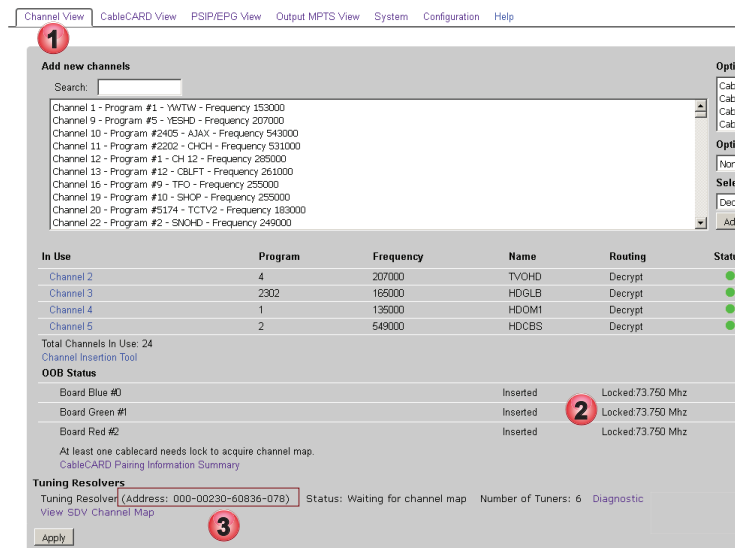

Figure 13-2: Tuning Resolver Recognized
This section assumes the Tuning Resolver is already connected. In order to get the Tuning Resolver authorized, the unit address will need to be sent to the Cable Service Provider's authorization department since the resolver is authorized similarly to a STB. To assist in this, the system polls the connected TR and brings the address to the 'Channel View' page, see Figure 13-2.
1. Click the **Channel View** tab if it isn't already selected, Figure 13-2.
3. The Tuning Resolver is automatically recognized by the system, and after a brief time, it's presence is reported, see Figure 13-2. The address needed to authorize it will be listed beside it.